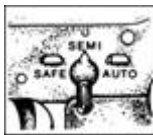

Figure 2. Selector lever in SEMI position.
2. Check an M16A1, M16A2, or M16A4 with the selector lever in the SEMI position (Figure 2).